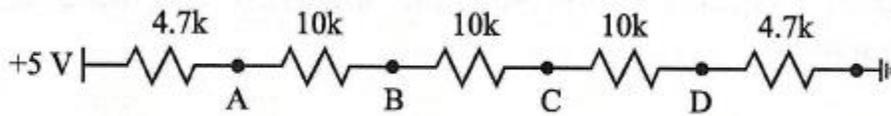

Figure 6.3: A 4-bit resistor string ladder.
- a. Using LTspice, build the circuit in Figure 6.3 and run a DC operating point simulation to determine the voltages at nodes A, B, C and D. Enter those node voltages in the “No load” column of Table 1.